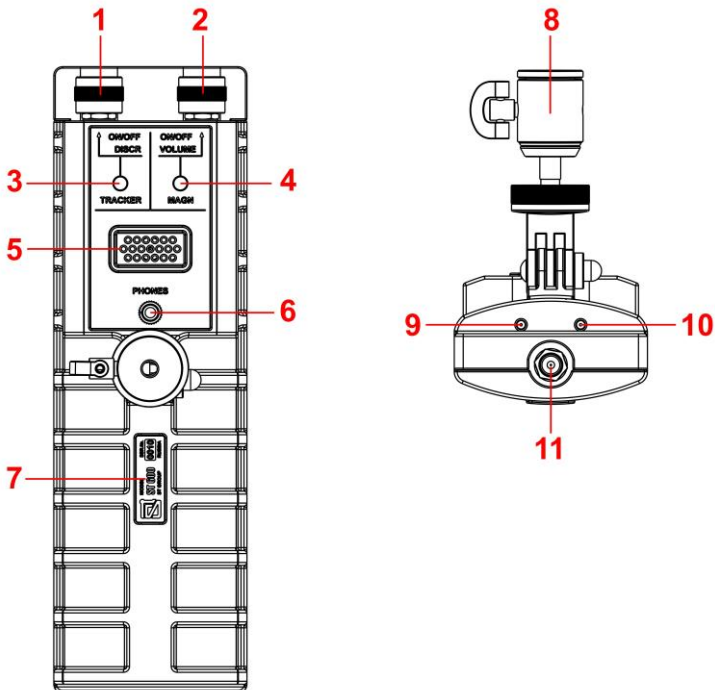

fig.2
The numbers in fig.2 denote:
An adjustable bracket is installed on the device body (fig.2, pos.8). The bracket allows you to fix the main unit on the telescopic handle (fig.1, pos.5) and fix it in the desired position relative to the examined surface.
Power supply of the main unit and the generator is carried out from built-in batteries. Fully charged batteries ensure continuous operation of the main unit and the generator for 7 hours. The power control of the main unit is carried out using two LEDs (Fig. 2, p.9 and p.10). With a fully charged battery in operating mode, both LEDs do not glow. When the battery is discharged, a red LED lights up (Fig. 2, p. 9). The battery of the main unit is charged in the off state using the charger (Fig. 1, p. 4) while the green LED is lit (Fig. 2, P.10), which goes out when charging is complete. Full charging time of the main unit is not more than 2 hours.
1. Turn on the main unit by switch (fig.2, pos.2). The device automatically switches to the “DETECTOR” mode. The «MAGN» indicator will light (fig.2, pos.4).
2. Connect headphones to the main unit (fig.2, pos.6).